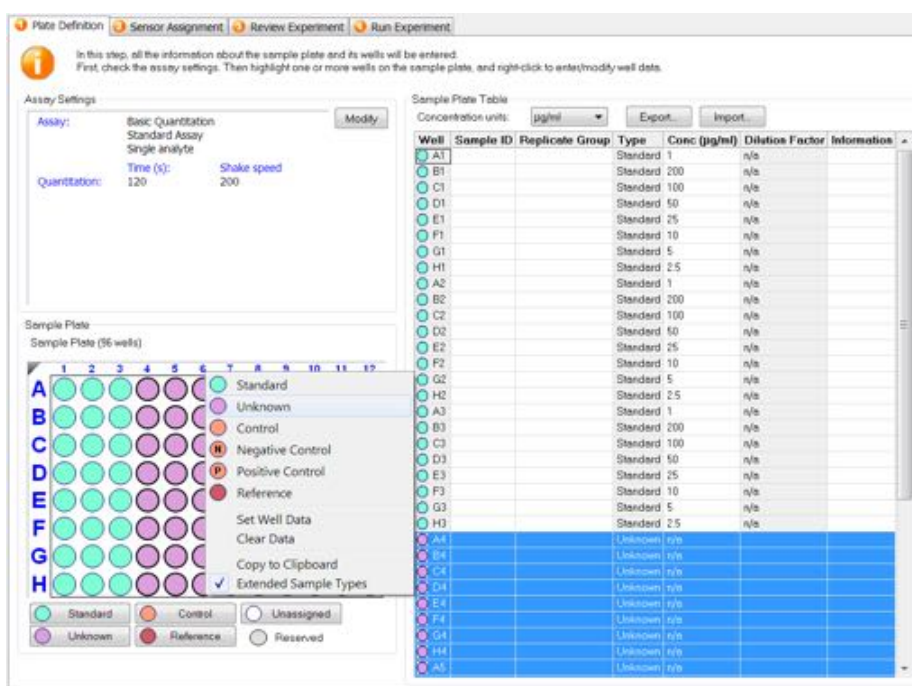

Figure 5-9: Plate Definition Window—Designate Unknown Wells
To designate unknowns in the **Sample Plate Map**, select the wells to define as unknown, right-click and select **Unknown**. The unknown wells are marked in the plate map and the sample plate table is updated (see Figure 5-9).
1. In the **Sample Plate Map**, select the unknown wells (see Figure 5-9).